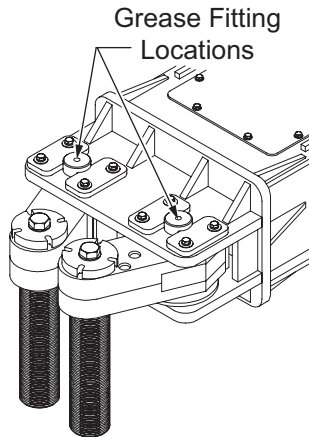

Figure 5-10, Grease Fitting Locations
1. Use a standard lithium grease when necessary on the grease fittings located in the gear pins. (Figure 5-10)